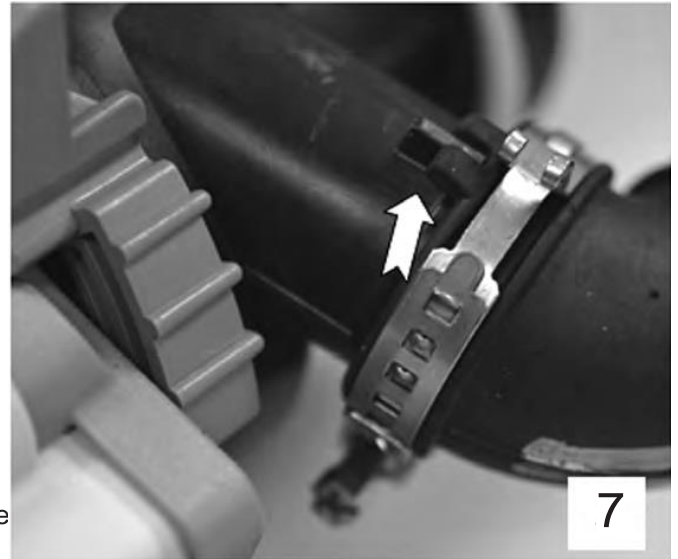

Figure 7
7. Align tabs and tighten clamps, see figures 7 and